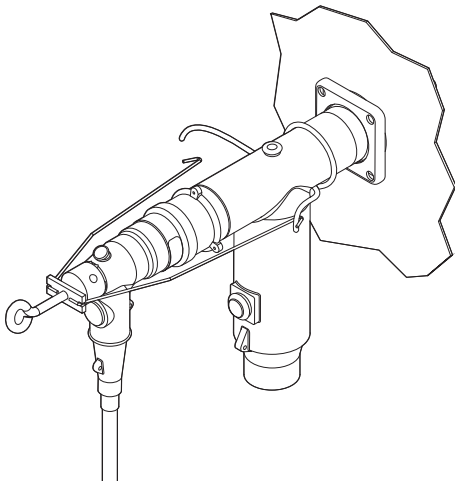

Figure 5. CLEERCHAIN looped around t-body arm pulled as tight as possible
- Pull the loose side of CLEERCHAIN under the Tee apparatus bushing interface to the opposite side, creating a full circle of chain around the Tee apparatus bushing interface. (Refer to **Figure 5**).